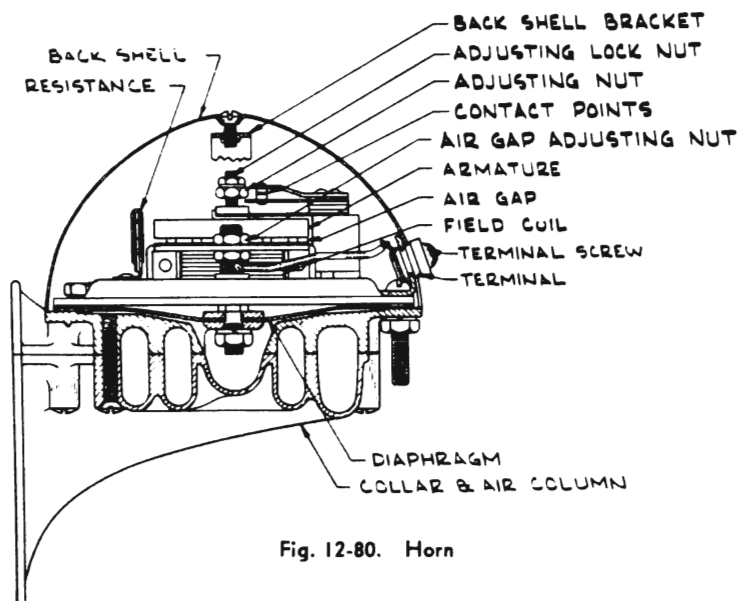

Fig. 12-80. Horn
- (a) Remove the horn back shell. See Fig. 12-80.